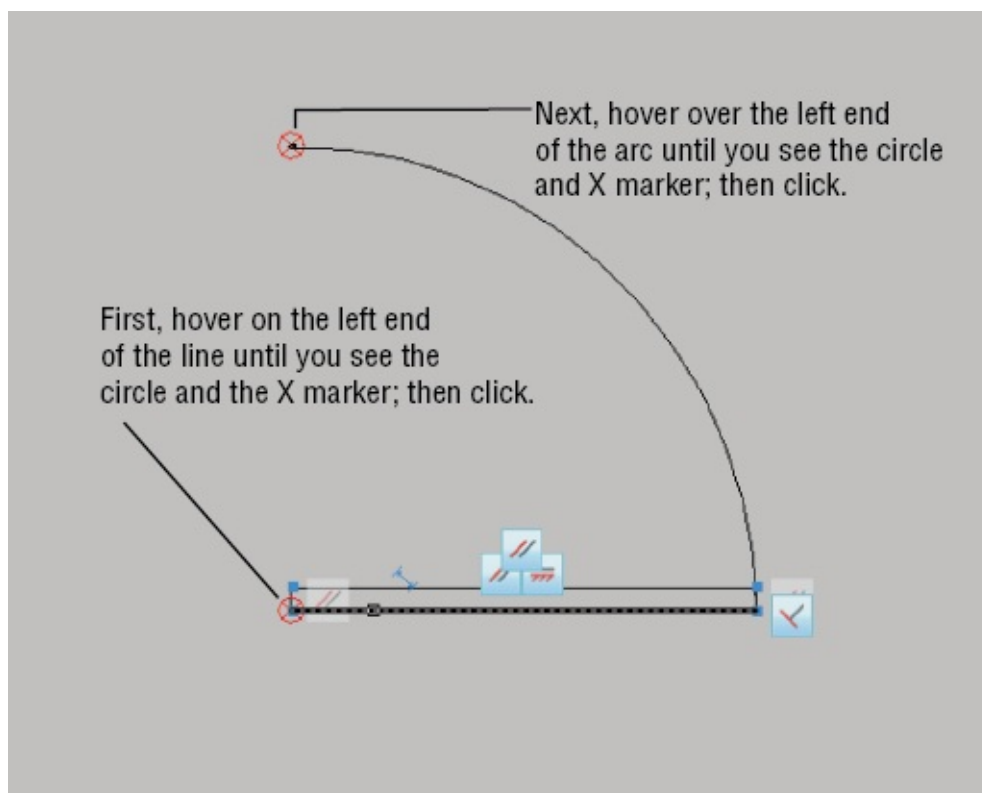

FIGURE 17.11 Select the locations for the door opening dimensional constraint.
2. At the Specify first constraint point or [Object/Point & line/2Lines] <Object>: prompt, point to the line at the bottom of the drawing near the left endpoint, as shown in Figure 17.11.
4. At the Specify second constraint point: prompt, place the cursor on the top end of the arc so that you see the circle and X marker again at the left end of the arc, as indicated in Figure 17.11, and click.